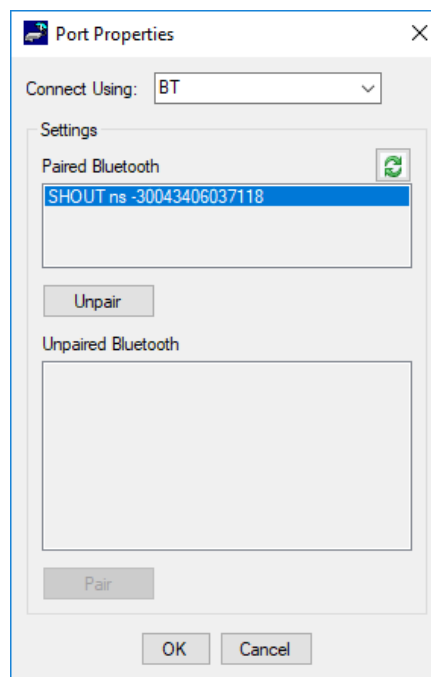

Figure 7. Bluetooth Port Properties Paired.
7. Next, click on your SHOUT ns device from the Paired Bluetooth list (see Figure 7), and click the OK button to connect. If connect is a successful, the window will close and SatTerm is properly connected to the SHOUT ns.